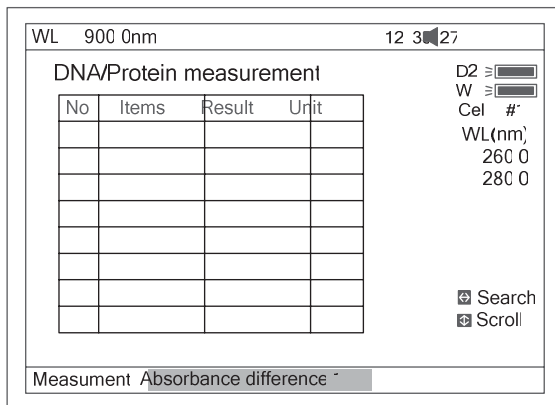
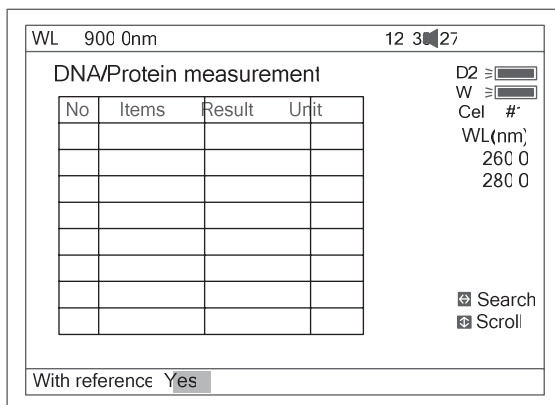

Fig 61
Fig 62
1. To use a simpler or different algorithm, you can enter your own values for f1-f4. Press **【F1】** to set f1-f4. Input the value by pressing the numeric keypad (Fig 61).
2. Press **【F2】** to select test mode. "Absorbance difference 1" is for testing at the wavelength 260nm, 280nm and 320nm (optional), and the "Absorbance difference 2" is for testing at the wavelength 260nm, 280nm and 320nm (Optional, Fig 61). Then select with/without reference. If selected with reference (no), the A ref. will be "0" (Fig 62).